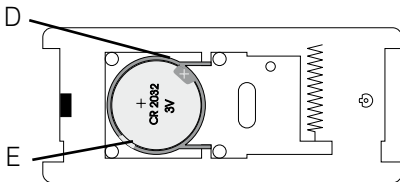

Figure 4: Battery compartment call-pushbutton
- d) Insert the battery (coin cell CR 2032) into the plastic support on the PCB (fig. 4 D).
driver from its plastic support by lifting the edge slightly (fig. 4 E). Afterwards you can insert a new battery. Please ensure correct polarity of the battery.